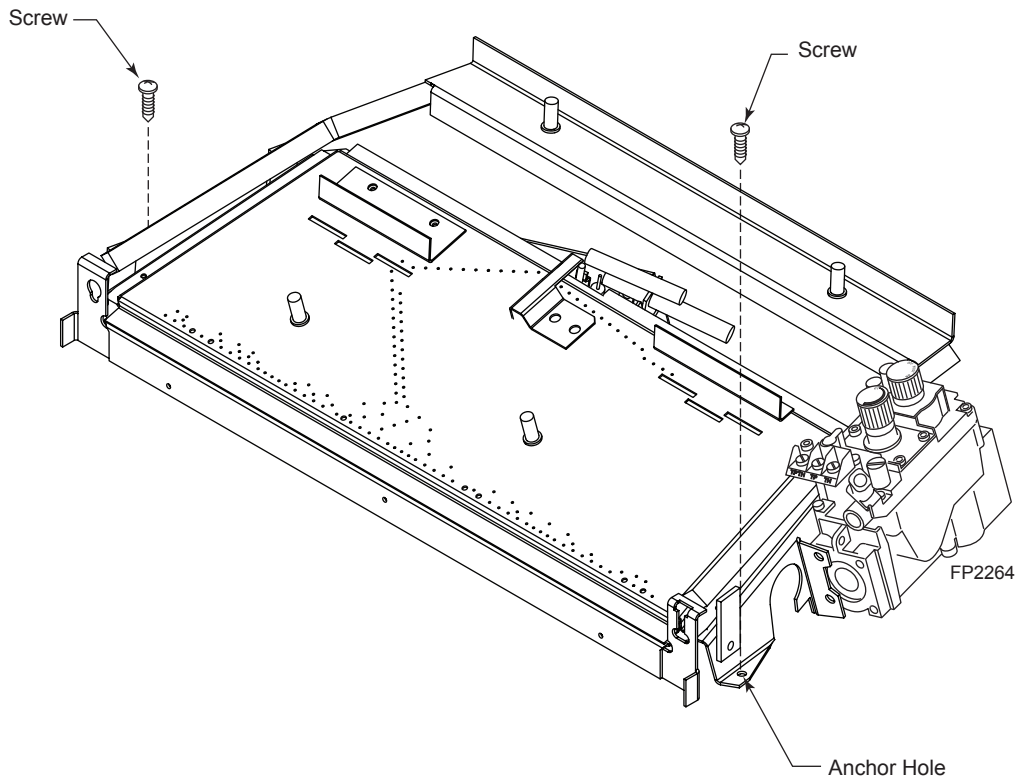

Figure 14 - Securing Heater to Floor of Fireplace/Firebox
2. Anchor holes are located on the right and left sides of the unit. After centering the burner correctly, mark the hole positions on the fireplace/firebox floor. Drill two (2) 5/32" diameter holes approximately 1½" deep.
3. Anchor the grate to the fireplace/firebox floor using the screws provided. *Figure 14*